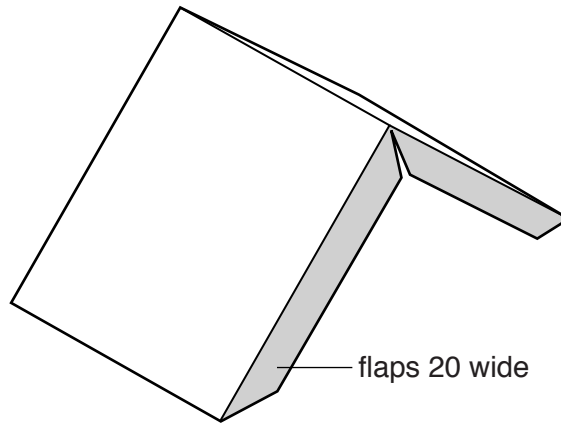

Fig. 17
- (c) Fig. 17 shows the back of the roof of the bird feeder.